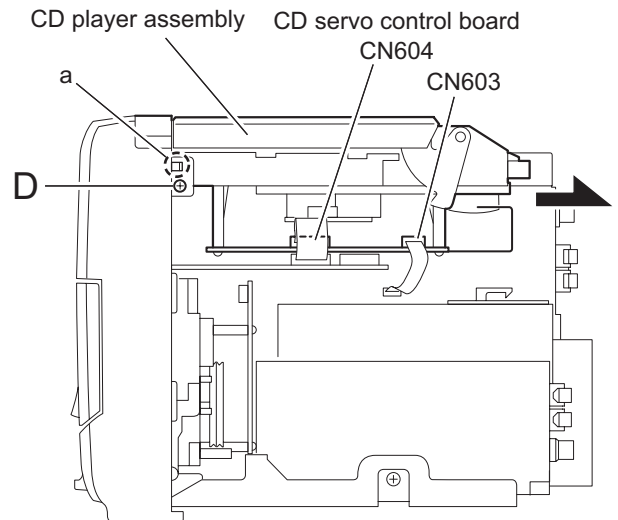

Fig.6
2.1.3 Removing the CD player assembly (See Fig.6,7)